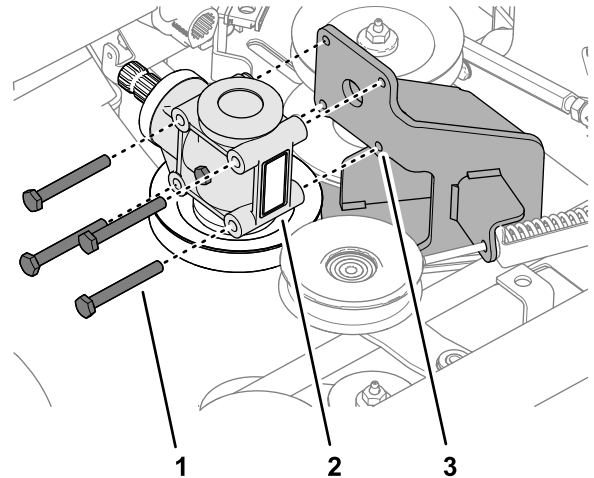

Figure 118
2. Remove the 4 bolts that secure the mower-deck gearbox to the gearbox support (Figure 118).
1. Align the holes in the mower-deck gearbox with the holes in the gearbox support; refer to Figure 118 in Removing the Gearbox \(page 78\).